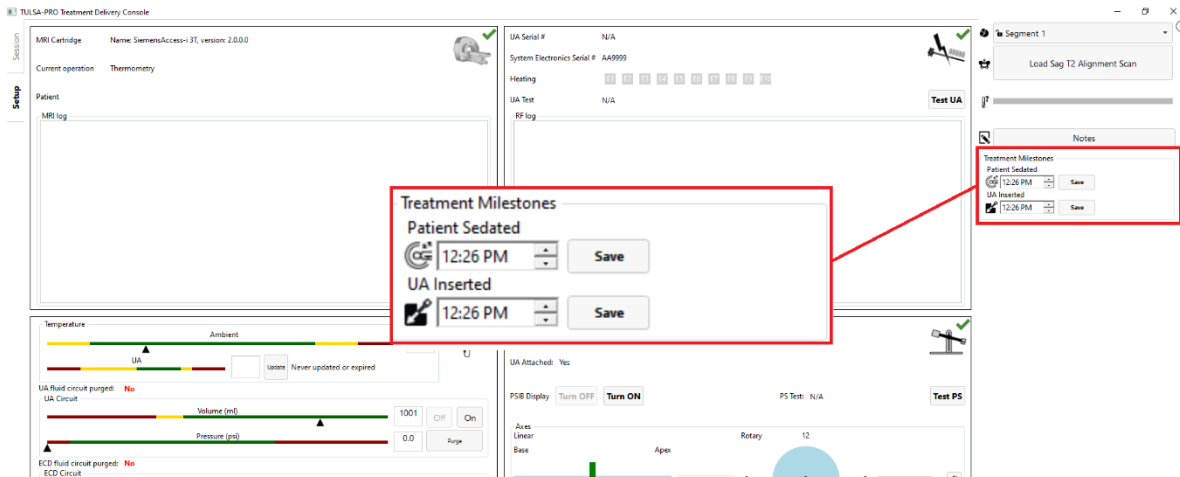

Figure 27: Entering Treatment Milestones in the TDC Setup Workspace
1. In the TDC *Setup* Workspace, enter the sedation and UA insertion times under **Treatment Milestones** (Figure 27).